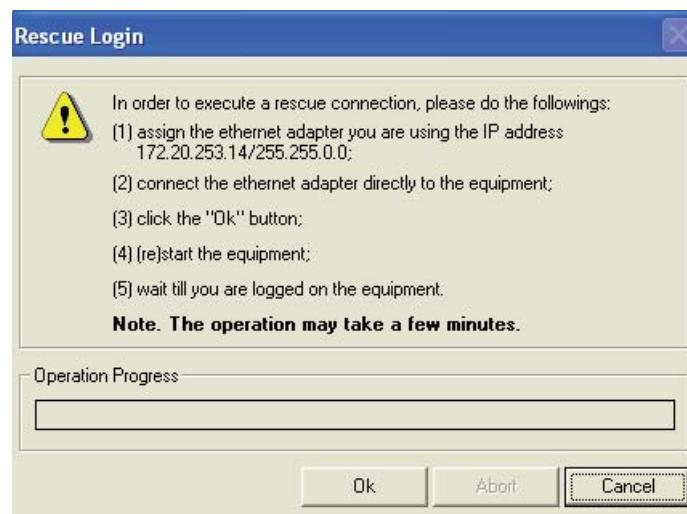

Fig.80 - Rescue login using SCT
4. Follow the instructions of rescue login (see Fig.80)